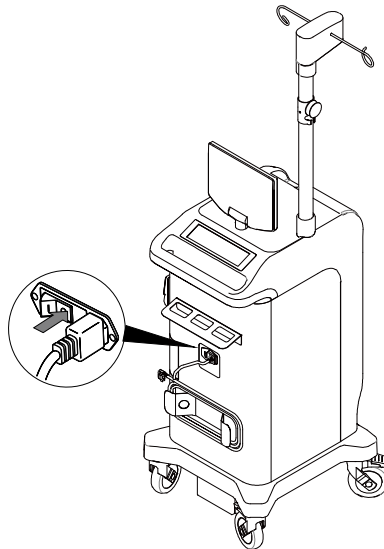

Figure 34 To Remove Power
1. Push the power switch to the OFF position (Figure 34).